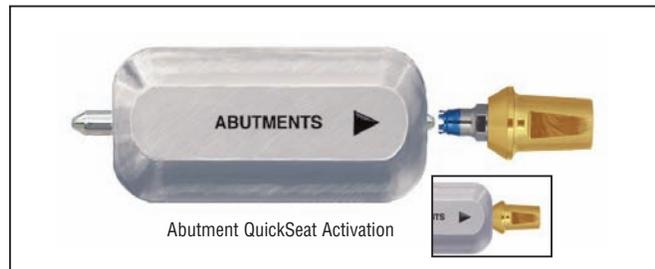

fig. 3
- **Abutments:** Insert the abutment onto the pin, fingers first and slide inward until the platform meets the tool (fig. 3).